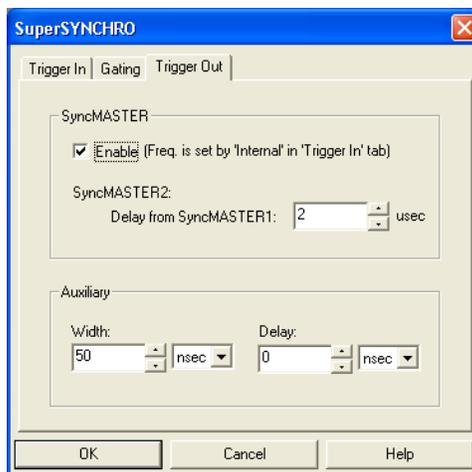

Figure 46. Trigger Out tab
- If you are using the **Aux. Out** signal from the SuperSYNCHRO to trigger a piece of equipment, then enter the Auxiliary pulse delay time on the **Trigger Out** tab (Figure 46). The delay is based on T0 (in effect it is a delay from SyncMASTER1 which also starts at T0). Enter the pulse width needed to trigger the equipment.